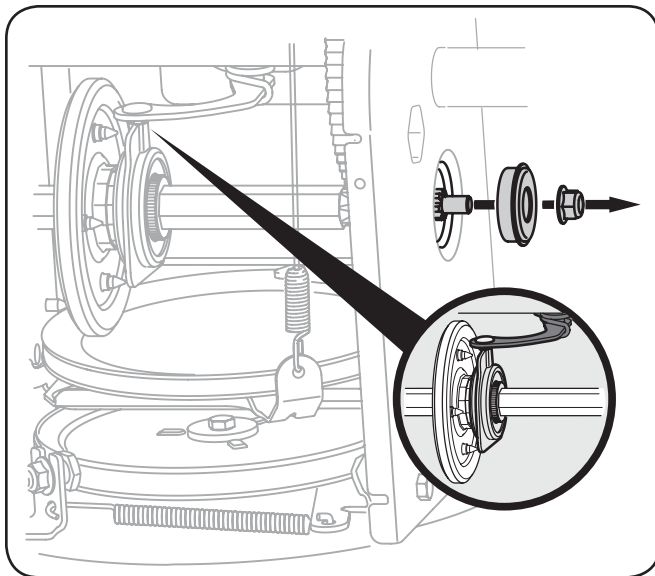

Fig. 7-9
5. Carefully remove the hex nut which secures the hex shaft to the snow thrower frame and lightly tap the shaft's end to dislodge the ball bearing from the right side of the frame. See Fig. 7-9.
NOTE: Make sure the shift lever pin is in place in the bearing housing. See Fig. 7-9 inset.